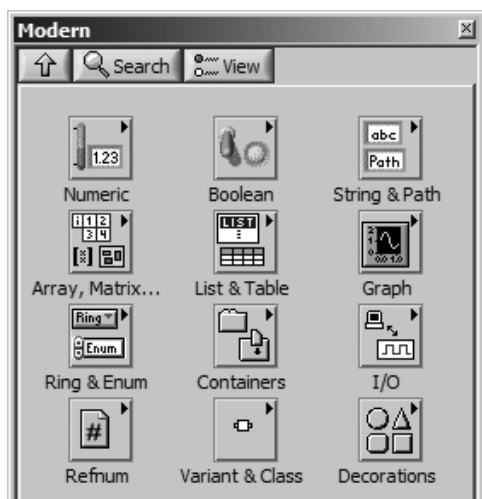

Figure 3.47
- **Icons and Text**, shown in Figure 3.47, is similar to **Icons**, except that each item's name appears directly beneath its icon.